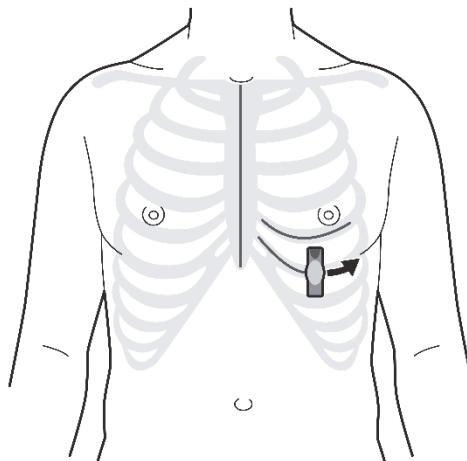

Figure 4: Determine and mark the medial-lateral course of 6th costal cartilage
- Move the vascular probe down to the 6th costal cartilage and repeat the medial-lateral sweep of the probe to determine and mark the centerline of the 6th costal cartilage. As an anatomical reference point, measure and record on the screening form the length from the suprasternal notch to mid-5th ICS. See Figure 4.